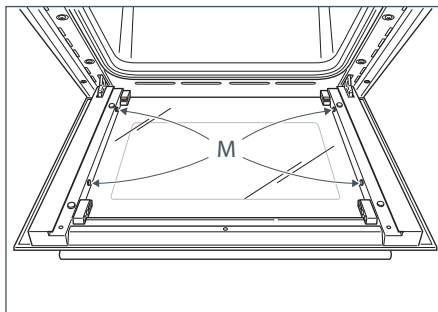

Fig.46a
- Check that the four rubber pads are in place ("M" in Fig. 46a).